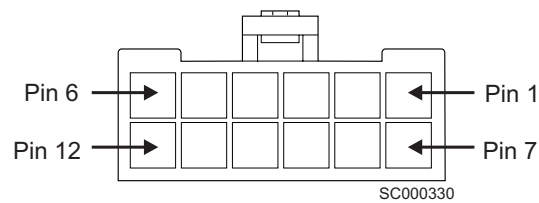

Figure 38. Ground Pins (2104 Model DS4: -48 V)
5. Check for continuity between the frame of the 2104 Model DS4 and the ground pin **1** of the power connector on each fan-and-power-supply assembly, as shown in Figure 38.
7. Check for continuity between the frame of the 2104 Model DS4 and the ground pins 1 and 7 of each mainline power connector as Figure 38 shows.